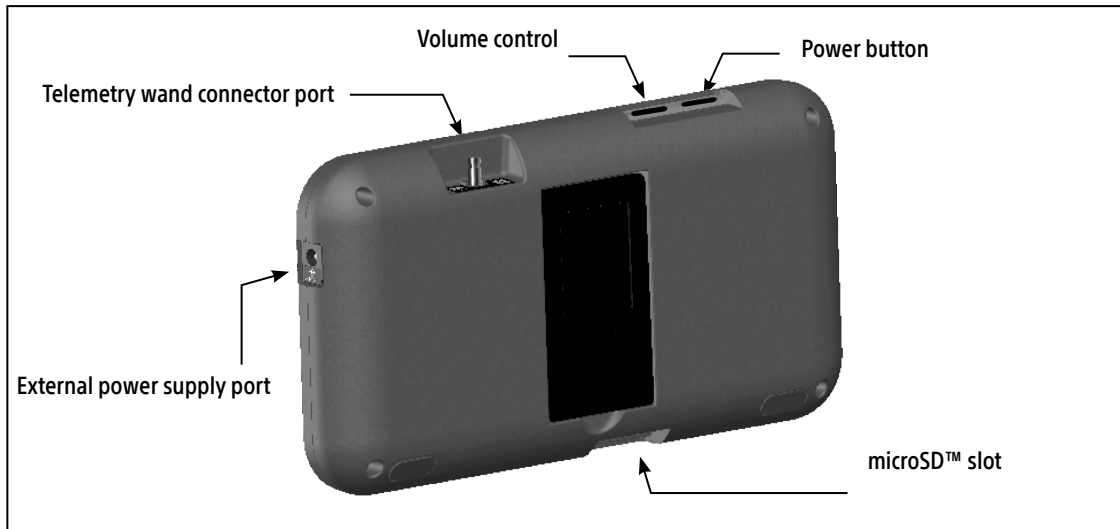

Figure 1: Controls and external connections
1. Connect the external power supply cable to the Programmer (Figure 1 on page 9).
The Programmer power button is located in the recess above and behind the left corner of the screen (Figure 1). Press and hold the button until the display screen is active.
The volume level of Programmer-generated sounds may be temporarily adjusted using the volume control (Figure 1 on page 9). This level is automatically reset when the Programmer is restarted.
To connect the wand to the Programmer, slide the wand cable connector over the communication connector port located on the rear edge of the Programmer (Figure 1 on page 9).